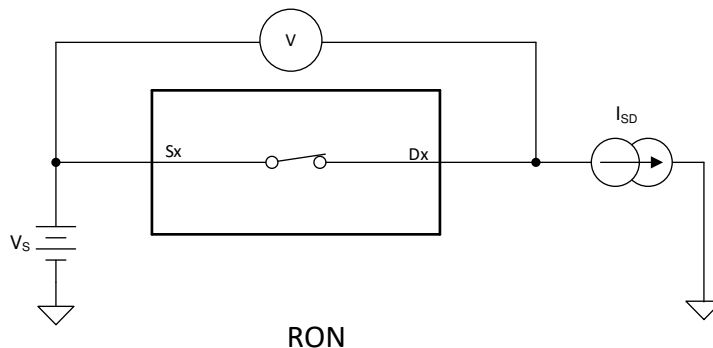

图 8-1. On-Resistance Measurement Setup
The on-resistance of a device is the ohmic resistance between the source (Sx) and drain (Dx) pins of the device. The on-resistance varies with input voltage and supply voltage. The symbol R_{ON} is used to denote on-resistance. 图 8-1 shows the measurement setup used to measure R_{ON} . Voltage (V) and current (I_{SD}) are measured using this setup, and R_{ON} is computed with $R_{ON} = V / I_{SD}$: